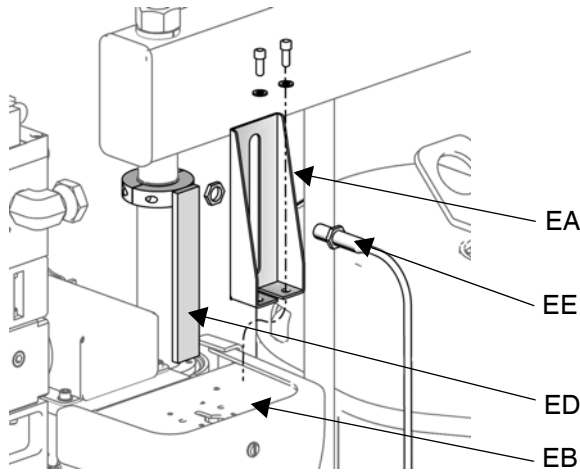

FIG. 9: D200 and D200s supply systems
3. To measure either drum low or drum empty, attach one sensor (EE) to the sensor bracket (EA).
4. For D60, D200, and D200s supply systems: Attach the actuator (ED) to the ram piston rod, near the top, so it passes in front of the sensor (EE) at the correct level for drum low or drum empty. See FIG. 9.